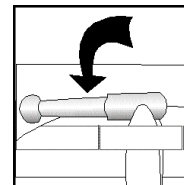

Figure 30
2. Turn toggle so that it lies parallel to the white webbing. **See figure 30.**